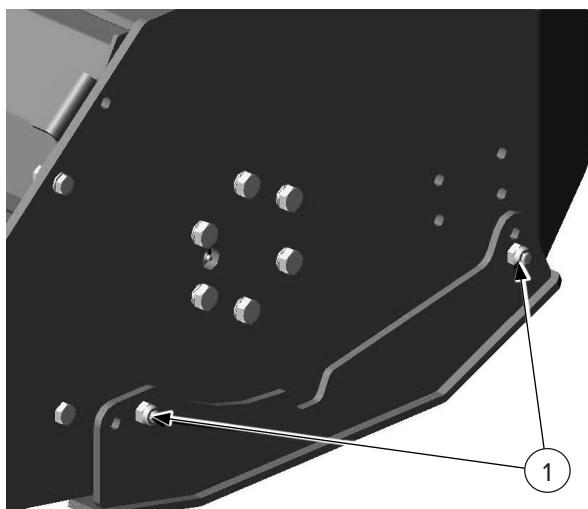

Figure 5
1. Loosen and remove the bolts [Figure 5, Item 1] that hold the skid shoes to the side plates of the Flail Mower.